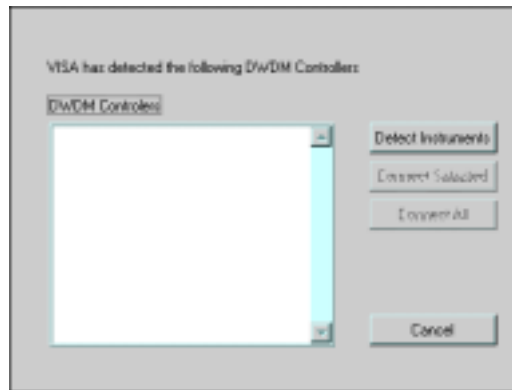

Figure 3-1. Instrument Detect Window
1. From the menu bar, select **Instrument** → **Detect...** to display the Instrument Detect window shown in Figure 3-1. :